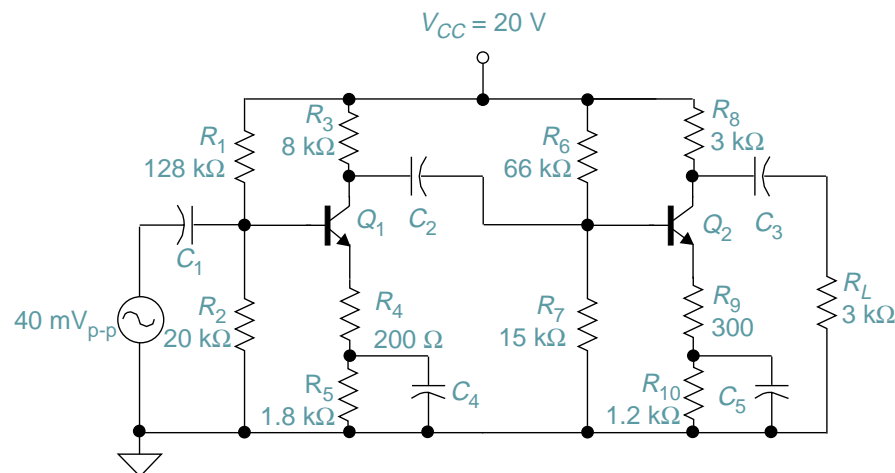

FIGURE 5–24
- \_\_\_ 30. The collector of  $Q_1$  in Figure 5–24 measures approximately 20 V DC.
- \_\_\_ 31. The collector of  $Q_2$  in Figure 5–24 measures 13.8 V DC.
- \_\_\_ 32. The DC voltage at the junction of resistors  $R_4$  and  $R_5$  in Figure 5–24 is zero volts.